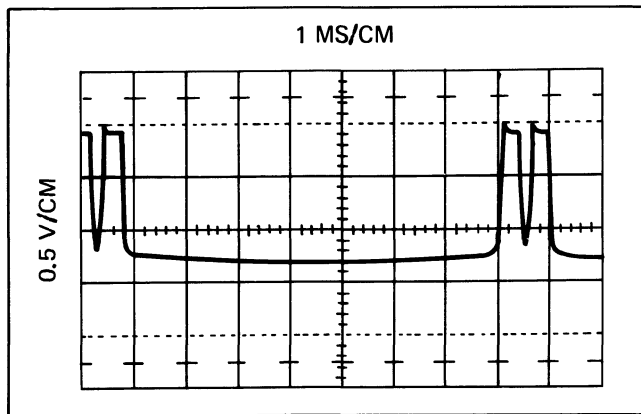

Figure 4-20. Pre-Regulator Q1 Waveform on STBY/RESET
7. The oscilloscope waveform should appear as in Figure 4-20.